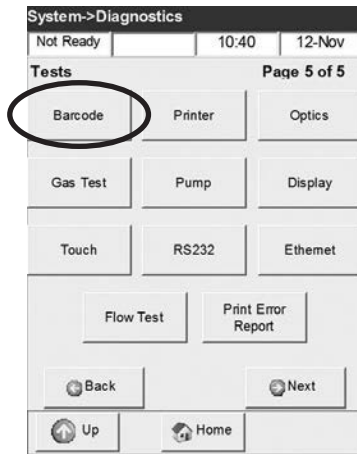

Fig. 7-11 Barcode Test
- Press **<Barcode>** to start the test (Fig. 7-11).